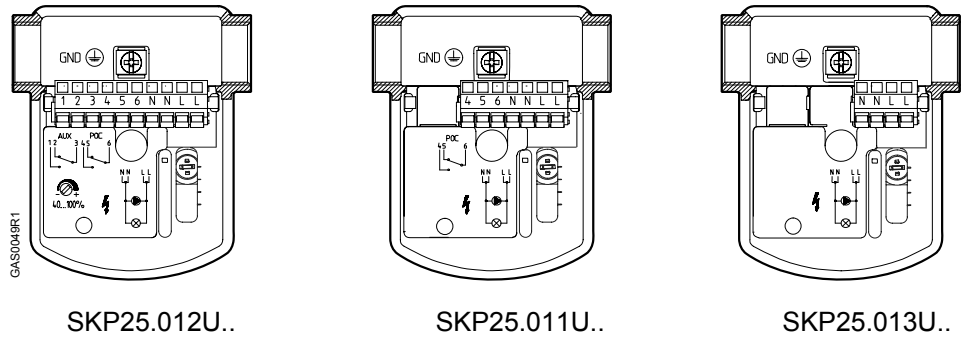

Figure 2. Terminal Designations.
- Adjust the auxiliary switch (if provided) according to the wiring diagram on the label below the terminals (see figure 2). The adjustment screw and scale are located on the right side of the terminal box, and are visible through the transparent portion of the terminal cover.